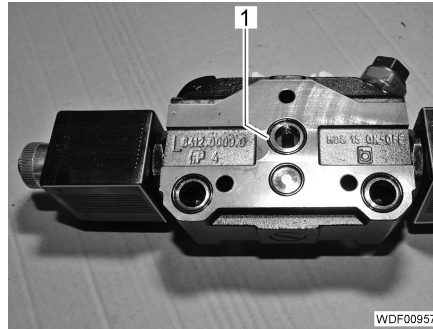
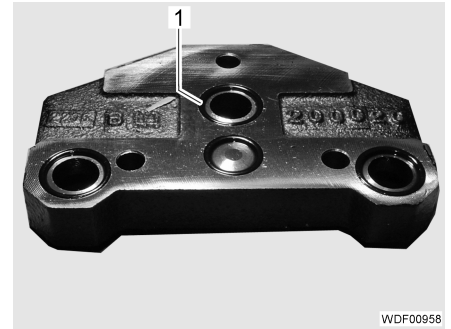

Fig. 186 Additional segment
Fig. 187 Cover
- Clean the surfaces of the additional segment (Fig. 186) and cover (Fig. 187).
- Replace the 4 O-rings (Fig. 186,1) on the additional segment.
- Replace the 4 O-rings (Fig. 187,1) on the cover.